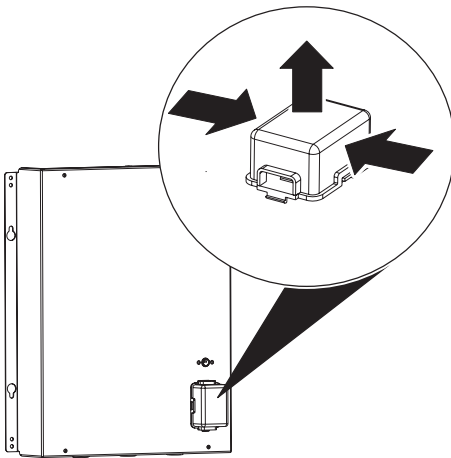

Fig. 45: Opening and closing the box
2. Press the lid (Fig. 45) together along its long sides, to open the black box (Fig. 45), and take the lid off (Fig. 45).